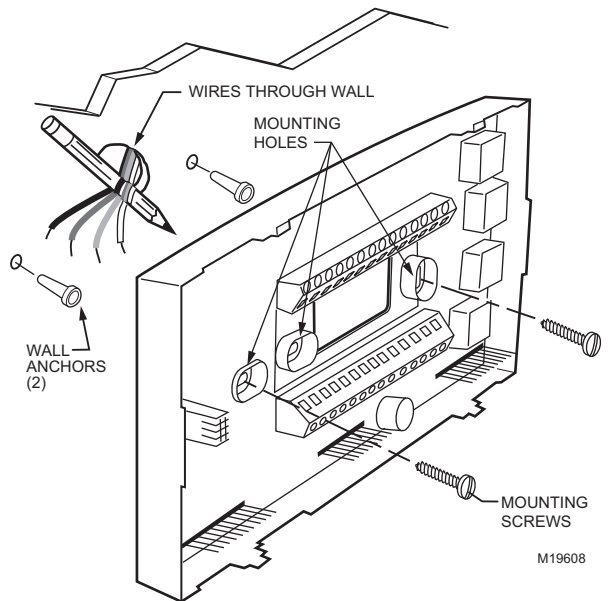

Fig. 7. Mounting the subbase.
2. Use a pencil to mark the mounting holes. (See Fig. 7.)